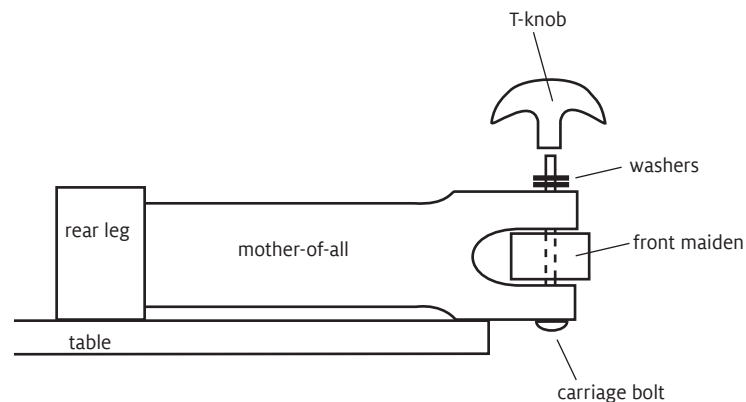

FIGURE 2 - INSTALL THE T-KNOB AND BOLT
1. Insert the bolt through the right side of the mother-of-all, through the front maiden and out through the left side of the mother-of-all. (Figure 2)